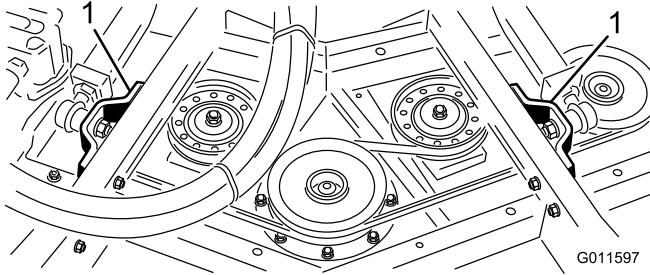

Figure 4
- Remove bolts, washers and locknuts securing each lift arm ball joint mount to cutting unit castor arm tube (Figure 4).